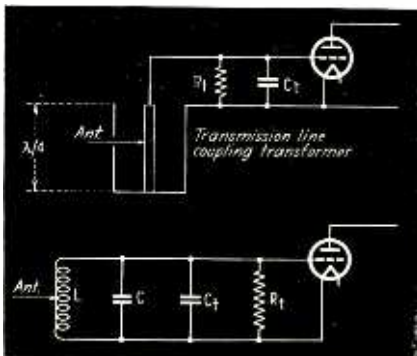

Fig. 4—Transmission line u-h-f input coupling transformer and its equivalent circuit
the impedance between the antenna and the receiver, and (2) to obtain the required selectivity or bandwidth. A section of the transmission line used as a coupling transformer and its equivalent input circuit are shown in Fig. 4.
To increase the selectivity, it may be desirable to connect the grid of the input tube farther down toward the grounded end of the transmission line rather than connecting it, as shown in Fig. 4 at the quarter wavelength position. When this is done, it will be found that it is also usually desirable to tap the antenna farther down the line from the position which is optimum when the grid is tapped at the quarter wave section of the coupling transformer.